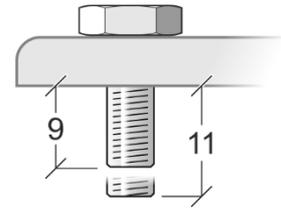

Figure 6. Min./max. bolt protrusion into base (millimeters)
1. See Figure 6. Pass two M10 grade 8.8 steel bolts or screws through two half-coupler type rigging clamps and check that the bolts will protrude minimum 9 mm / 0.35 in. and maximum 11 mm / 0.43 in. into the base of the fixture when tightened.